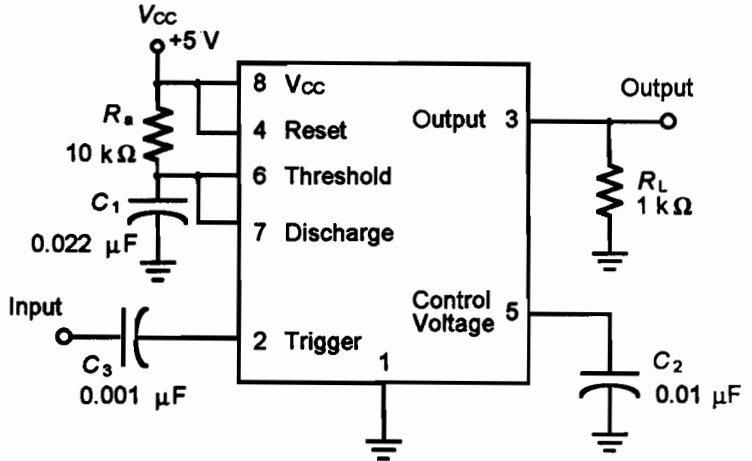

Figure 65.2
1. Connect the circuit as shown in Figure 65.2. Connect the signal generator to the input. Adjust the generator for 8-kHz square-wave input at  $2\text{ V}_{p-p}$ . Connect channel 1 of the oscilloscope to the input and channel 2 to the output. Sketch the input versus the output in Graph 65.2. Label the timing of the pulses.
1. Use the circuit of Figure 65.2. Turn off DC power. Simulate an open timing resistor ( $R_a$ ) by disconnecting the end of  $R_a$  from  $V_{cc}$ .